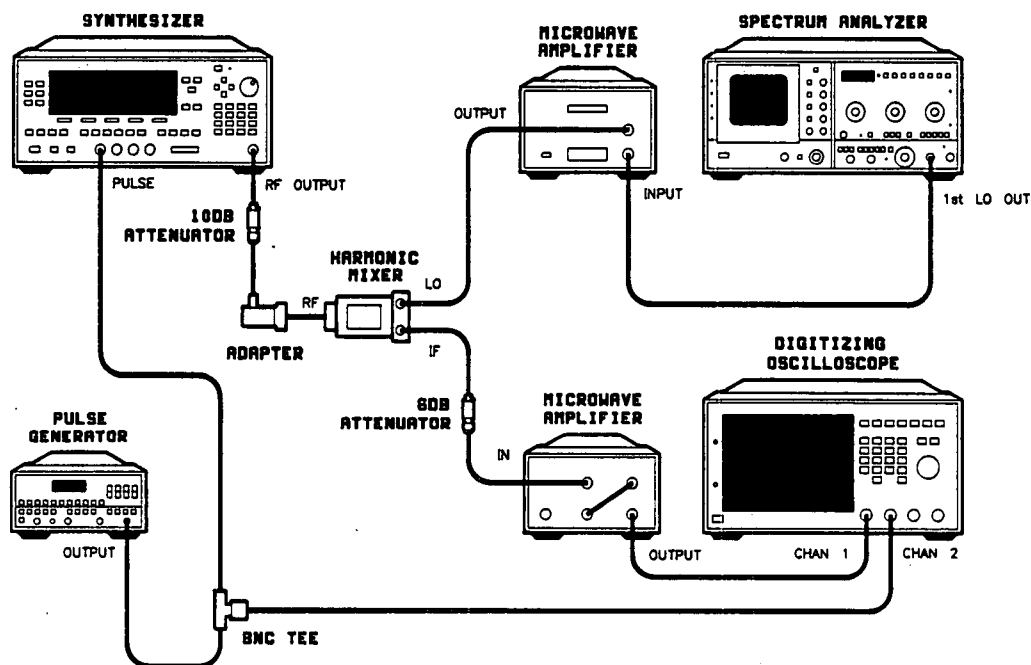

Figure 2-18. Pulse Performance Test Setup >20 GHz
23. Connect the equipment as shown in figure 2-18 using the HP 11970K Mixer (18 to 26.5 GHz).